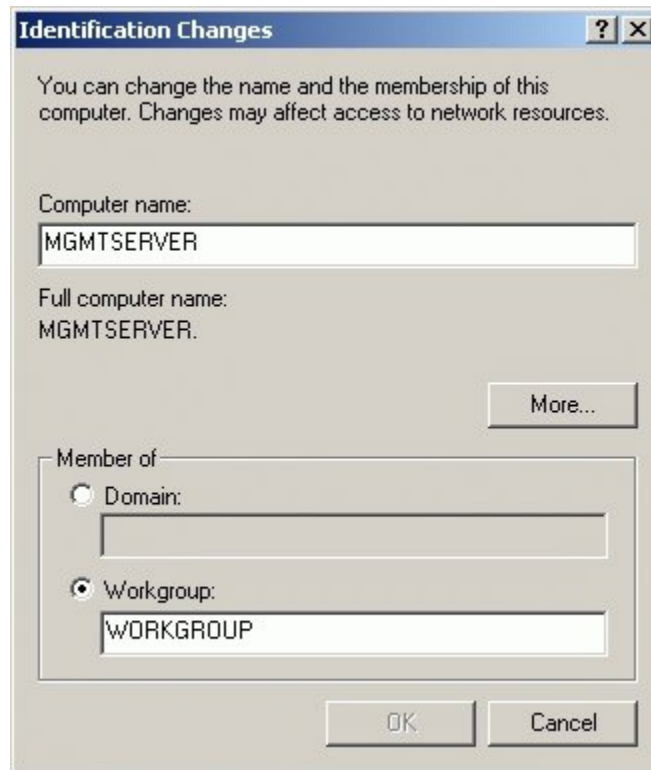

Figure 3.30. Identification Changes dialog box
4. Click **Properties**. The Identification Changes dialog box displays (Figure 3-30).